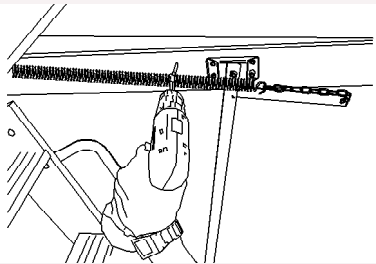

fig 16
7. With the stairs open screw through the holes you previously drilled in the side frame into the ceiling frame (figure 16). Do not fit tight yet.